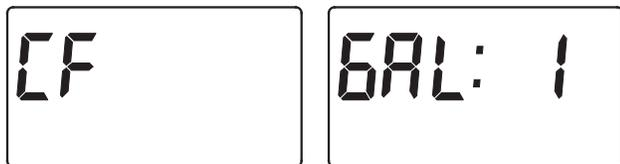

FIG. 18
- 4. CHEMICAL FEEDER TRIP VOLUME:** If you have set the auxiliary output control to CF (Chemical Feeder), you will need to set the volume of water which must flow past the turbine before the auxiliary output is turned on. With the alternating screens in Fig. 18 shown, use the Δ UP or ∇ DOWN buttons to set the trip volume, in gal-